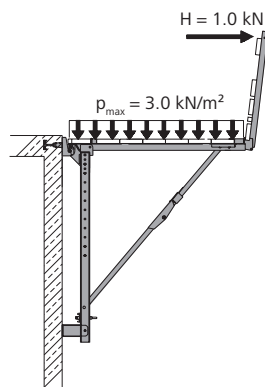

Fig. 22.1
- Working scaffold without formwork (Fig. 22.1)